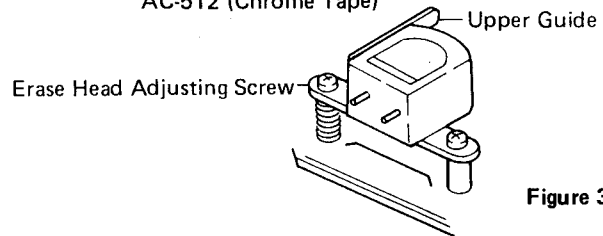

Figure 31
3. Adjust the height adjusting screw so that the upper edge of the tape will touch at the upper tape guide of the erase head. See figure 31.